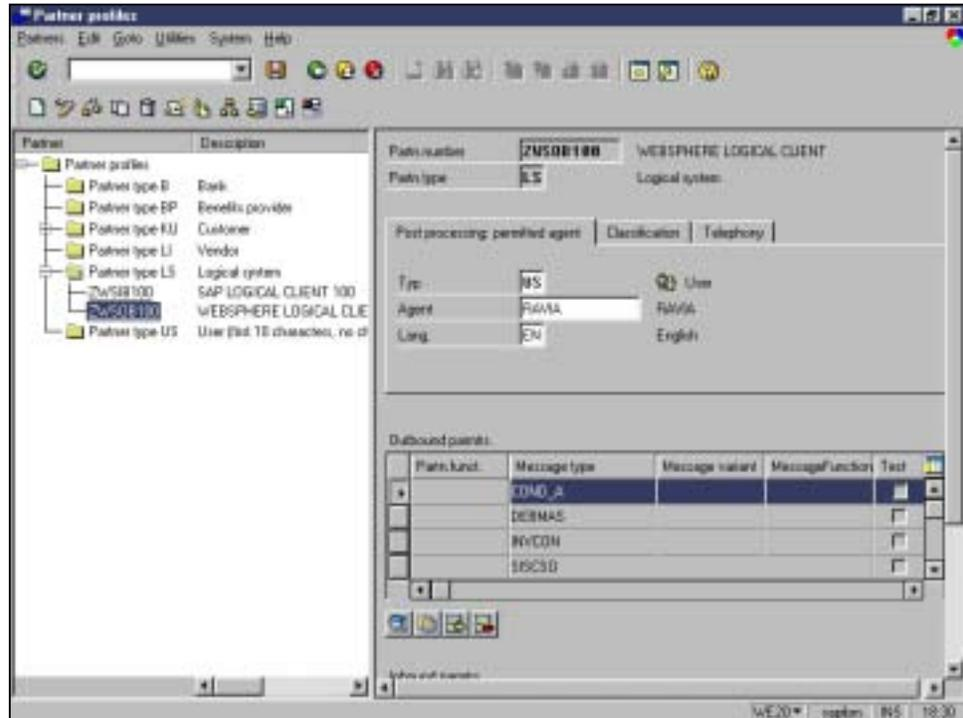

Figure 60: Modifying a partner profile: Selecting the logical system
2. Select the logical system, as shown in Figure 60.